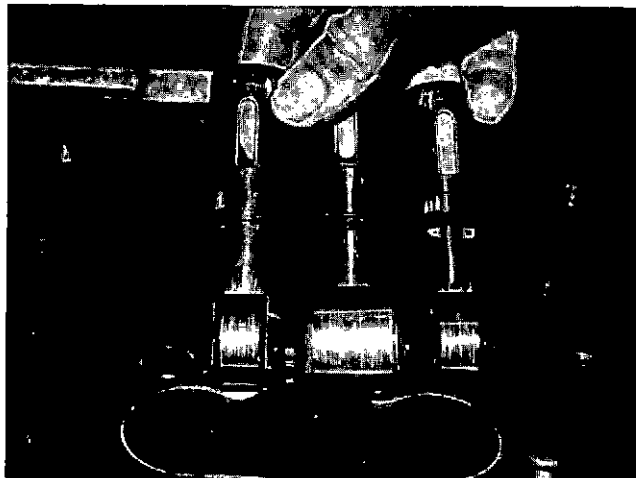

Fig. 14-1-36, V414138. Position tappets
1. Install tappets in cylinder block bores with larger injector tappets in the center. Fig. 14-1-36. Intake and exhaust valve tappets are the same size.